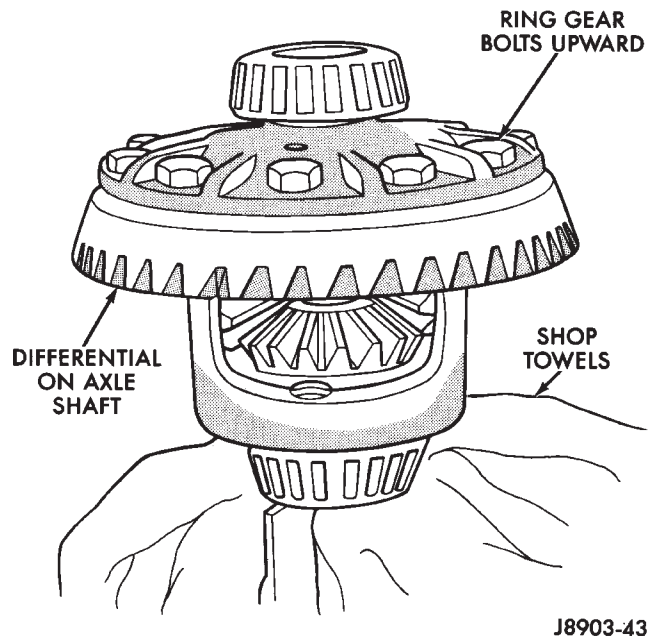

Fig. 4 Differential Case On Shaft
(2) Position the differential case on the axle shaft (Fig. 4). Place shop towels under the differential to avoid damage during removal of the ring gear (Fig. 4).